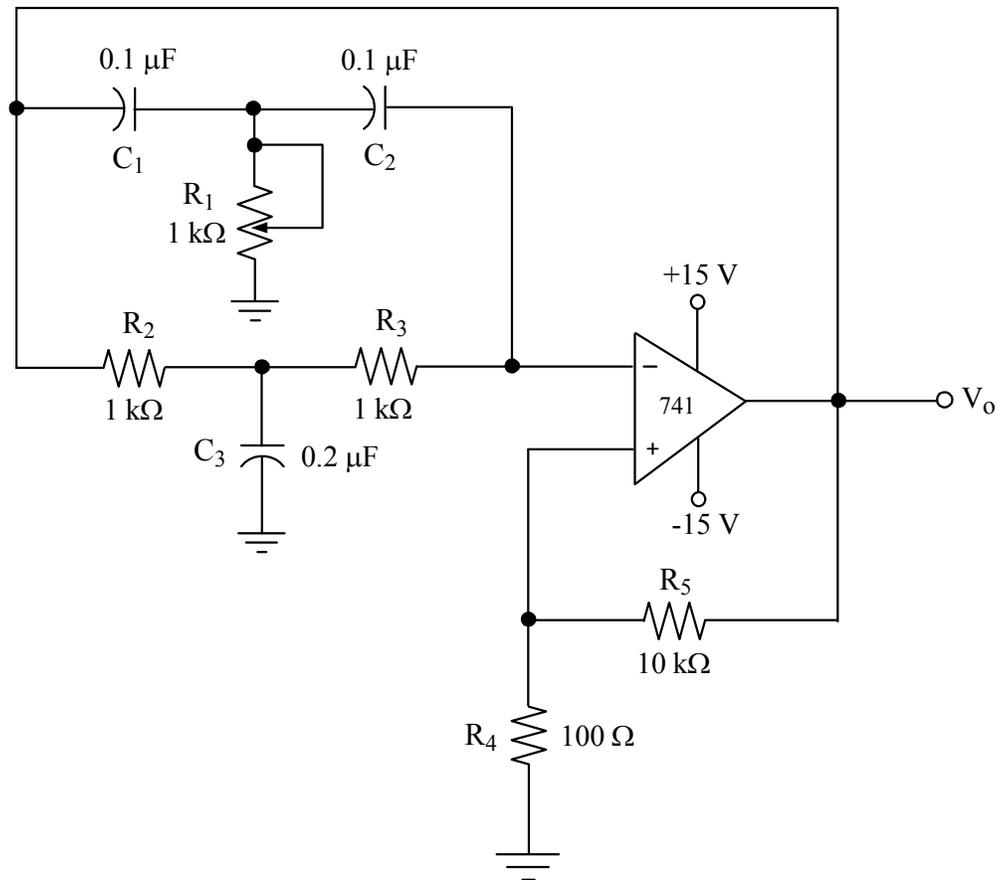

Figure 1
1. Connect the circuit as in Figure 1. Connect the oscilloscope at the output terminal, V_o .